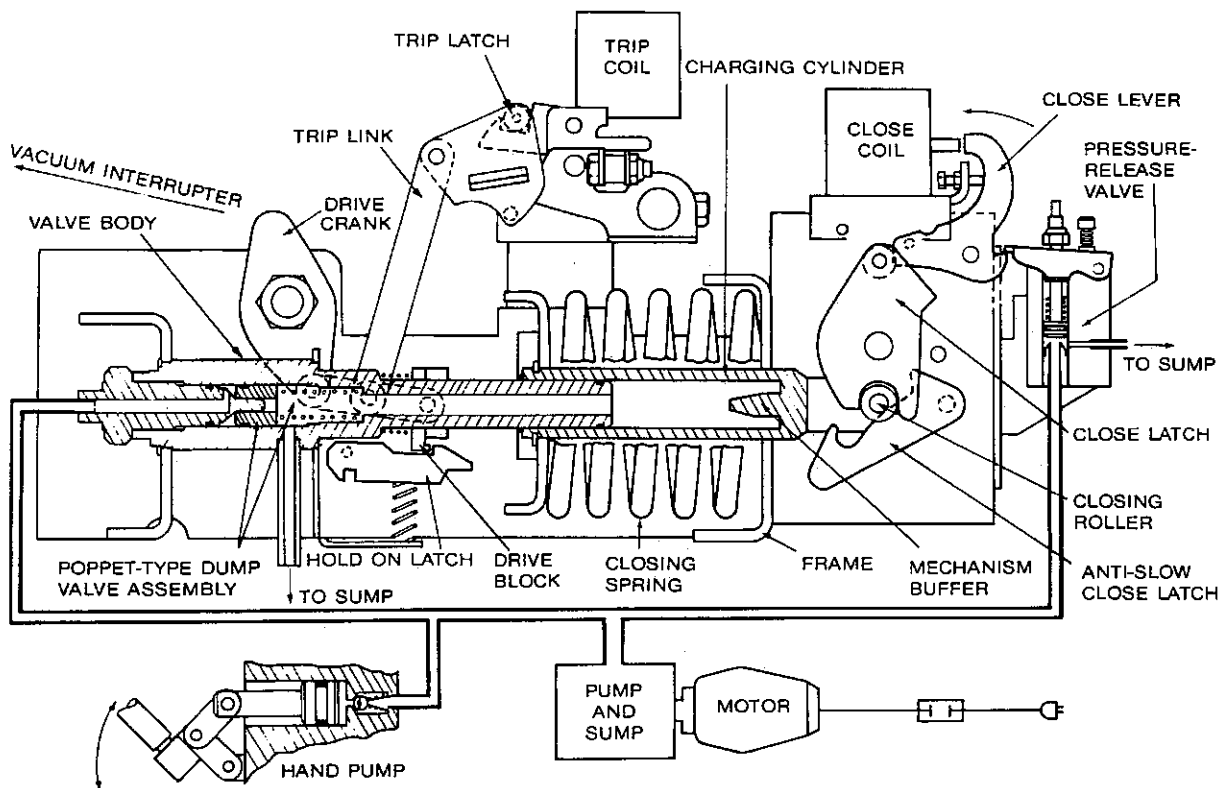

Figure 5.
8. Charging cylinder moves closing spring to the charged position, Figure 5.
The breaker is now ready for an opening operation, Figure 5.
3. As trip link collapses, hold-on latch disengages and drive block moves back toward charging cylinder and trip link resets, Figure 5.